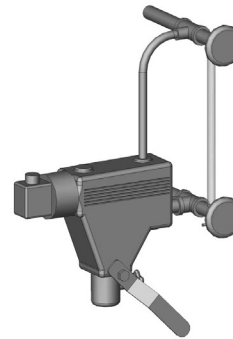

Figure 6.3: Gauge Glass & Low Water Cut-Off Installation
- a. **Float Type:** Install the float type low water cut-off (if provided) in conjunction with the gauge glass as shown in Figure 6.3.
- a. Install the gauge glass provided into two 1/2" tappings on the right side of the boiler. If a float type low water cut-off is used, it will be piped into these same fittings. See Figure 6.3 and 6.4 for examples of this installation.